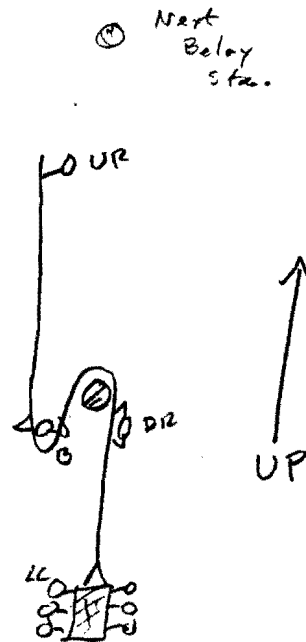

Figure 6.12. Semi-Technical Ascent.
The deployment of the evac team for an ascent is illustrated in figure 6.12. While the litter team struggles up the hill as best it can, the belayer (B) and the downhill ropehandler (DR) work the belay. The uphill ropehandler scouts the route uphill, carrying the end of the rope with him. He should keep in mind that, since he is trailing the rope, wherever he goes, the litter must go also,